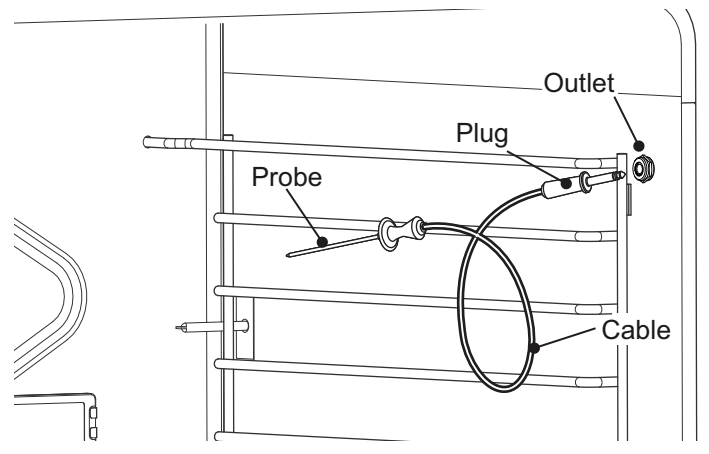

Figure 24: Meat Probe
1. In the large oven, or in the small oven on select models, locate the outlet (Figure 24).